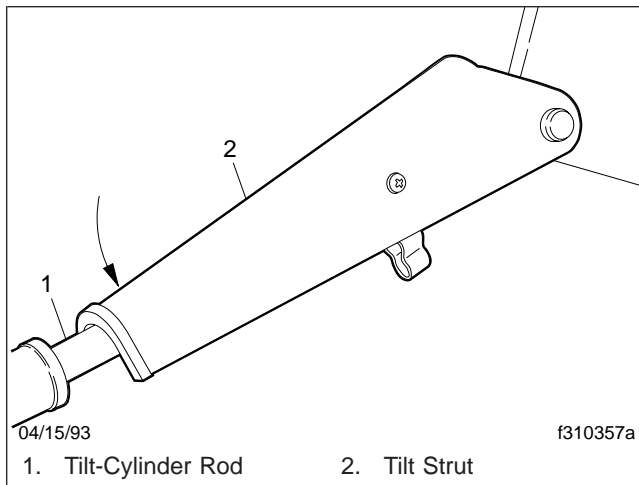

Fig. 5, Tilt Strut Positioning
- When the cab reaches a 30-degree angle, stop working the pump. Push the free end of the tilt strut down onto the right tilt-cylinder rod. See Fig. 5. The tilt strut prevents the cab from accidentally dropping below this position.